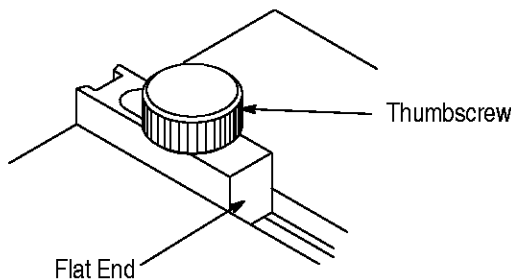

Figure 4
*When terminating Type A backshells, the slotted end of the backstop should face the backshell; when terminating Type B backshells, the flat end of the backstop should face the backshell. See Figure 4.*